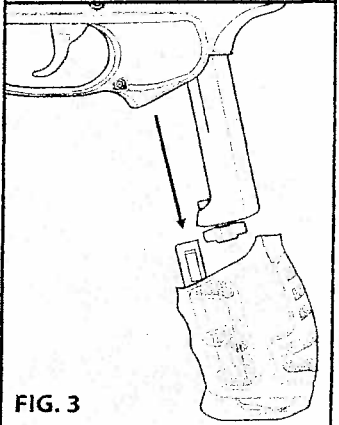

FIG. 3
2. Remove the butt of the grip by pulling down (Fig. 3).